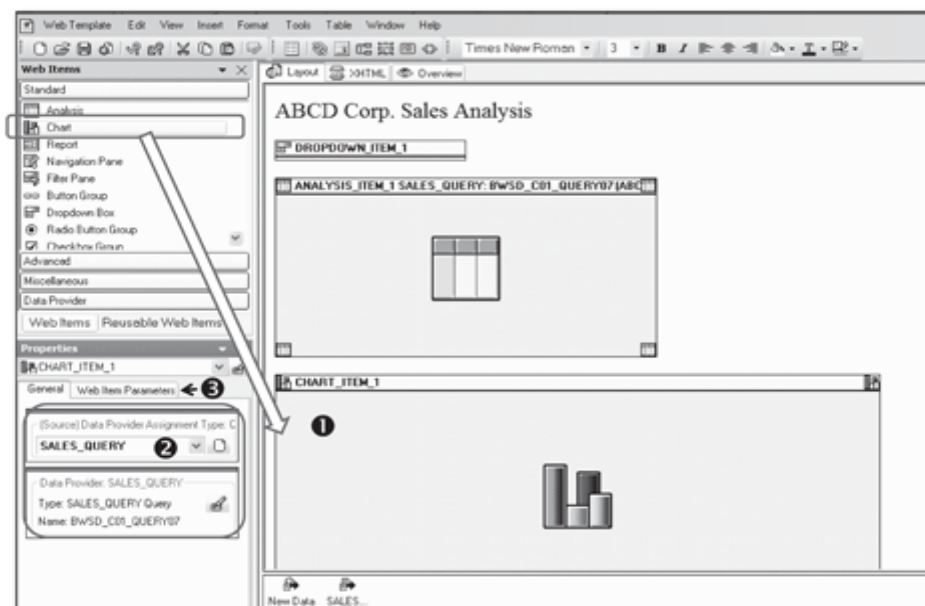

Figure 11.9 Add Chart Web Item
The Chart web item displays data from the data provider in graphical format. To add a chart to the web template; drag the Chart web item from the Web Items area into the layout (see ① of Figure 11.9). Assign the data provider to this web item in the Properties box (②). The detailed setting for the graphical display is done in the Web Item Parameters tab of the Properties box (③).